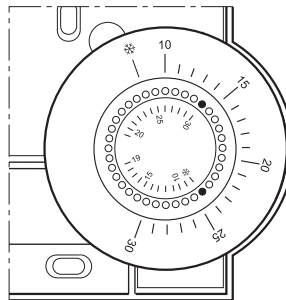

Fig. 14: Limiting the adjustment range
- ▶ Place the two small pins into the holes of the adjustment dials in order to limit the adjustment range (see Fig. 14). Orientate yourself on the basis of the inner scale: In Fig. 14, the pins are inserted so that the adjustment dial can only be adjusted in the range of 19 °C to frost protection * (lower limit) and 19 °C to 30 °C (higher limit) around the value 19 °C.